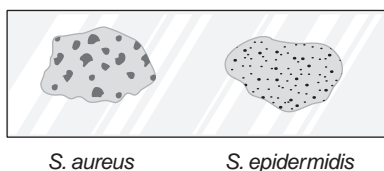

FIG. 17.2. Rapid slide test for coagulase.
3. Repeat this procedure with *S. aureus* on the second plasma sample. Look for an obvious clumping of the bacteria indicative of a positive reaction. This is because the enzyme is often attached to the surface of the cell wall and its action causes the plasma to coagulate, resulting in large amounts of bacteria trapped together (Fig. 17.2).